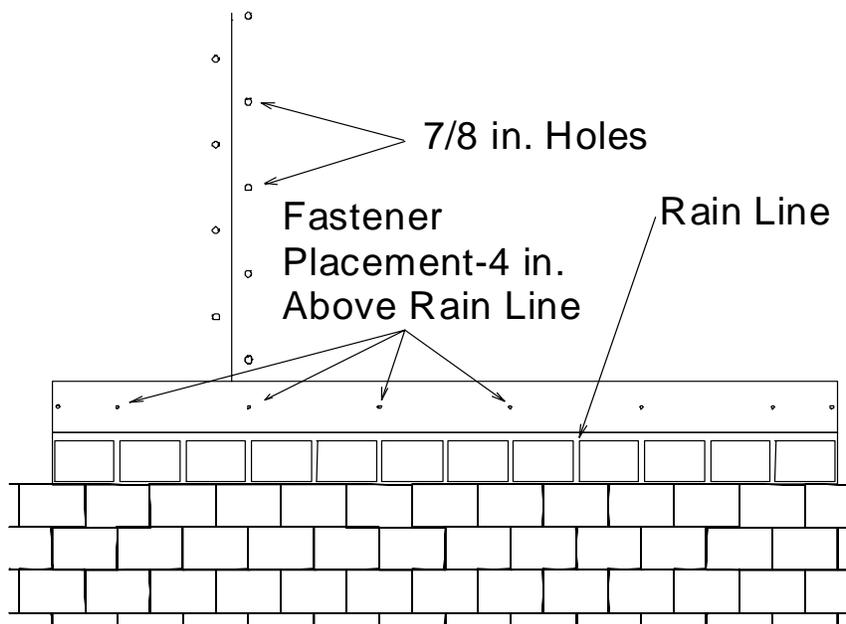

Figure 12
- 5.4 Fasten PV shingle using 1 1/4 inch (3.2cm) roofing nails 2 rain lines apart and 4 inches (10.2cm) **directly** above the rain line as shown in figure 12. **Note: It is important to fasten PV shingle in this area to avoid puncturing electrical components inside the package (see figure 12).**